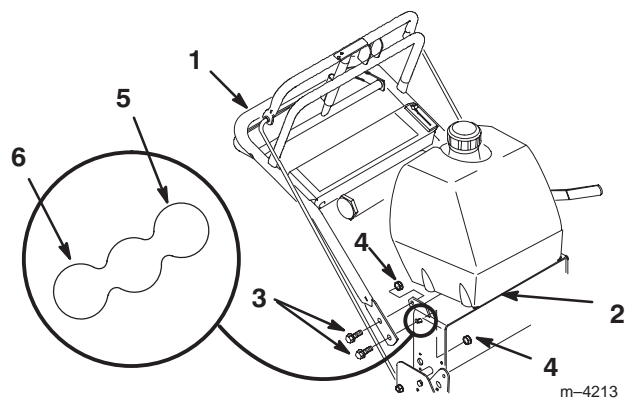

Figure 2
- Position handle outside frame and align upper handle mounting holes. Select desired mounting holes for high, medium or low position according to operators height (Fig. 2).
- Secure each side with (2) 3/8-16 x 1" (26mm) bolts and (2) 3/8-16 locknuts (Fig. 2).